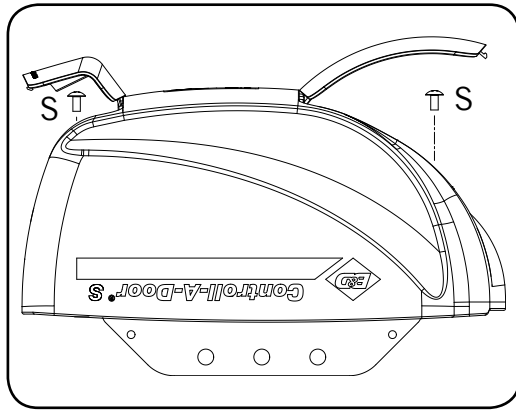

Fig. 40
- Swing open the light diffuser and controls cover. Remove screws marked "S" above in Fig. 40 and lift up the main cover.